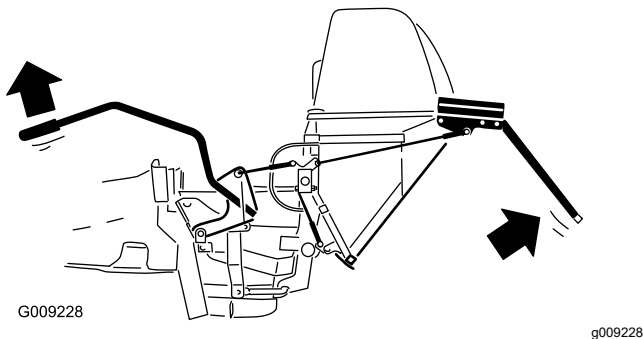

Figure 38
3. Push the handle down to close the door (Figure 38).